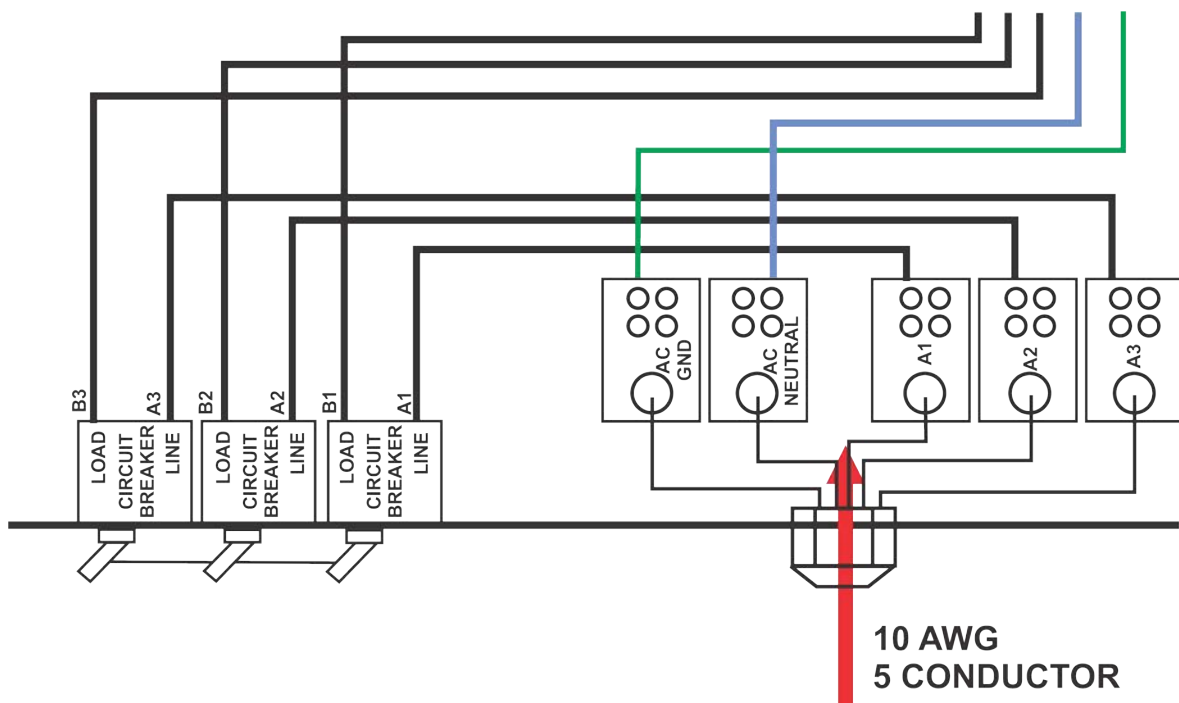

Figure 2.13 – Three-Phase AC Mains Wiring
5. Connect to the AC mains barrier strip as shown in **Figure 2.13**.